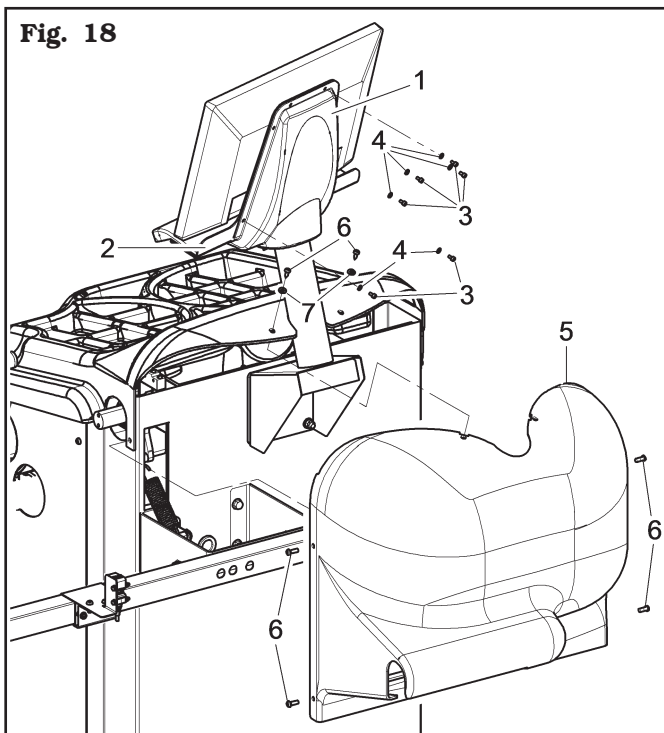

Fig. 18
- Fix the guard (**Fig. 18 ref. 1**) to the support (**Fig. 18 ref. 2**) with the 6 screws (**Fig. 18 ref. 3**) and the washers (**Fig. 18 ref. 4**) supplied.
- Mount machine rear covering (**Fig. 18 ref. 5**) using the screws (**Fig. 18 ref. 6**) and washers (**Fig. 18 ref. 7**), supplied.